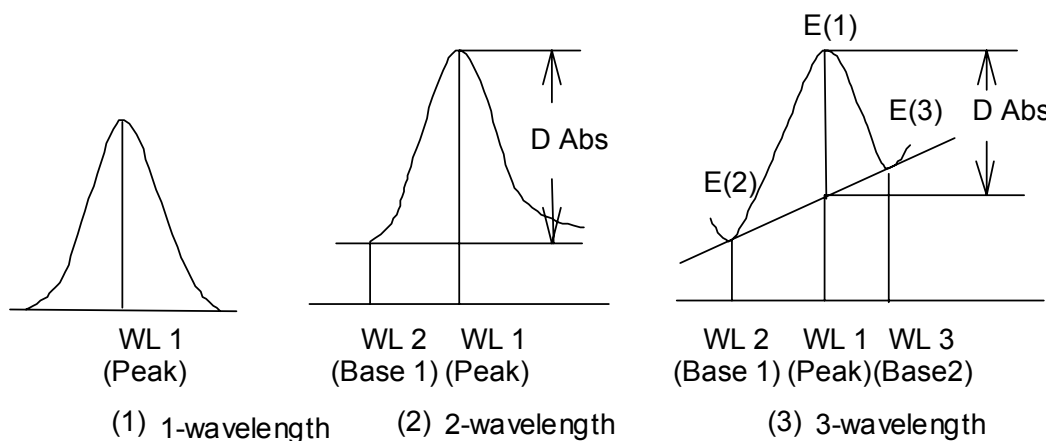

Figure 5.1 Quantitative Analysis Methods
- 1) No Base (1 wavelength quantitative analysis) (Refer to Fig. 5.1 (1))
- 2) 1 Base (2 Wavelength Quantitative Analysis) (refer to Fig. 5.1 (2))
- 3) 2 Base (3 Wavelength Quantitative Analysis) (refer to Fig. 5.1 (3))